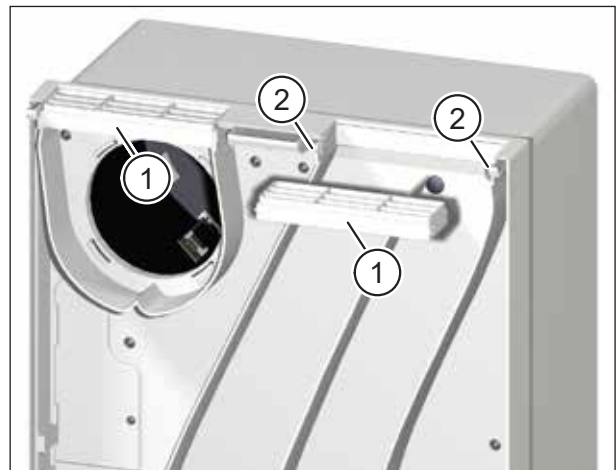

Fig. 10: Clean air grilles (for surface-mount or flush-mount without ductwork connection)
- ▶ Clean the air grilles (item 1 in Fig. 10) with a damp cloth and mild soapy water. You can take out the air grille if necessary. To do this, carefully push the two retainers (item 2 in Fig. 10) outwards and pull the air grilles forward and out.